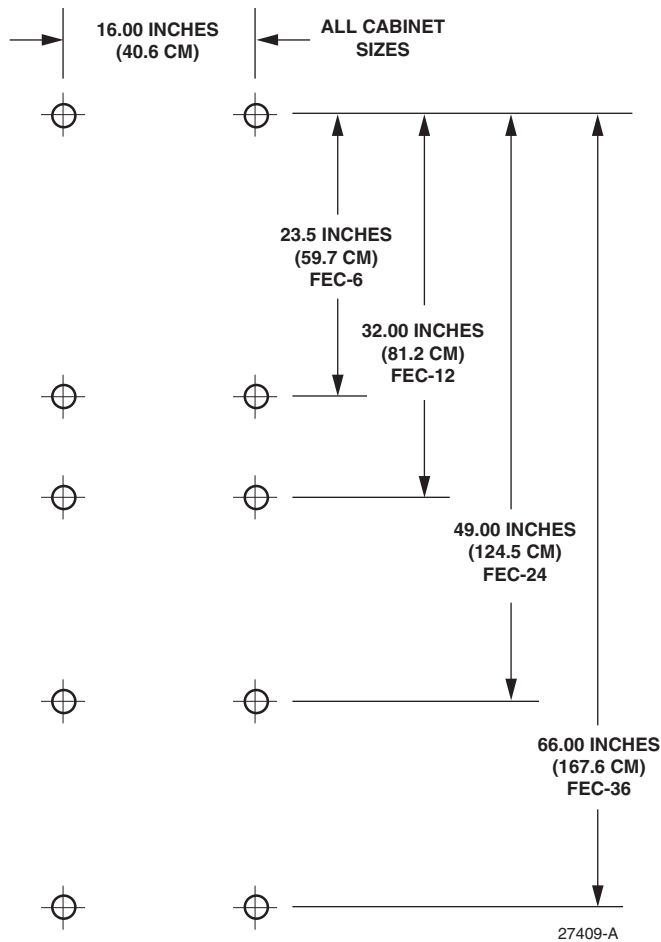

Figure 5. Mounting Hole Locations
1. Determine the FEC mounting location. Mark hole positions using dimensions shown in Figure 5.